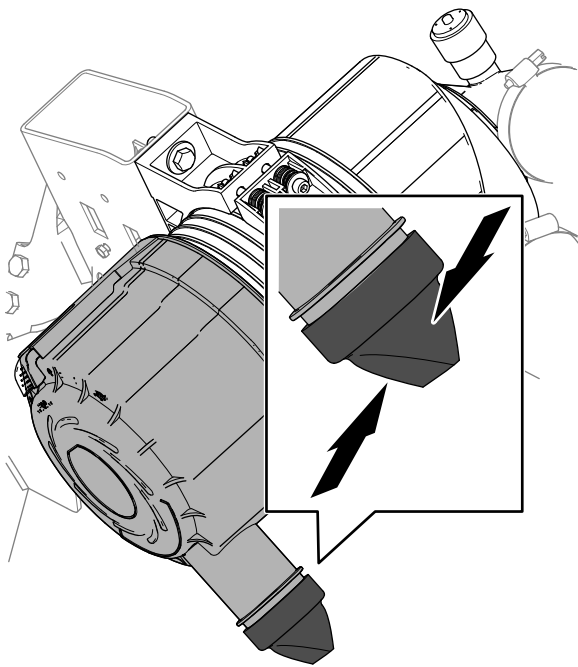

Figure 118
4. Squeeze the dust-ejector valve (Figure 118).